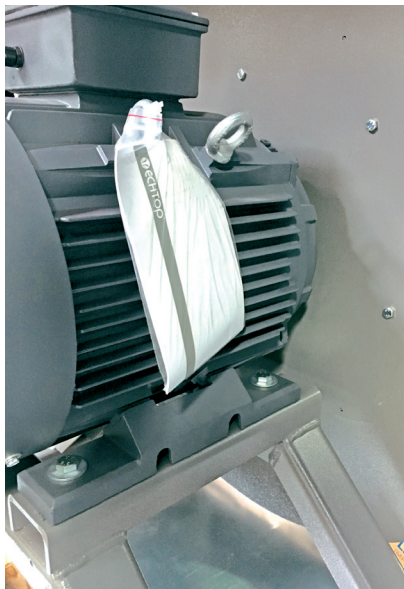

Figure 1
- Please note, that some components from sub-suppliers, such as fans, filters, recuperators, etc. are equipped with additional commissioning instructions, which are enclosed inside the section (Figure 1), where the component is installed. Please ensure that all instructions are removed from the inside of the air handling unit before start-up.